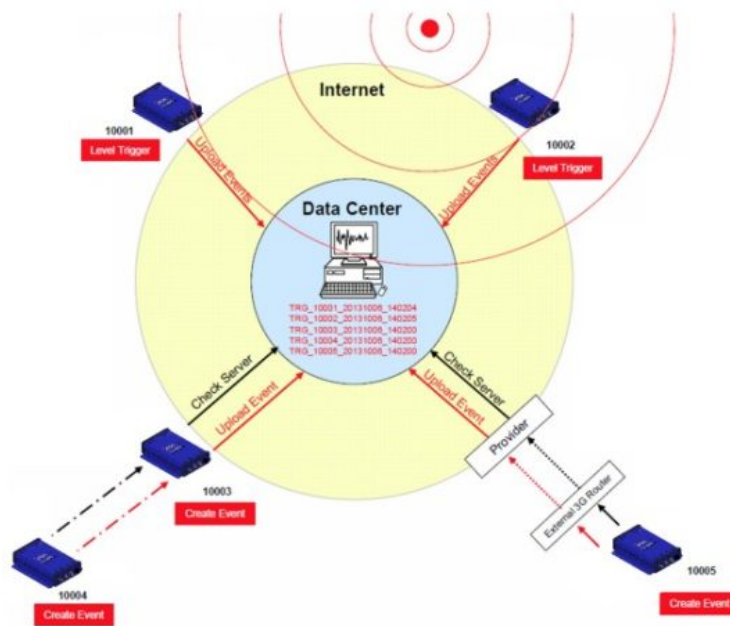

Figure 21: Behaviour on Events: Upload of extracted events
- All instruments will download the request during the next time checking the server (see Figure21)
- The extracted event file will be uploaded to the data server (see Figure21)